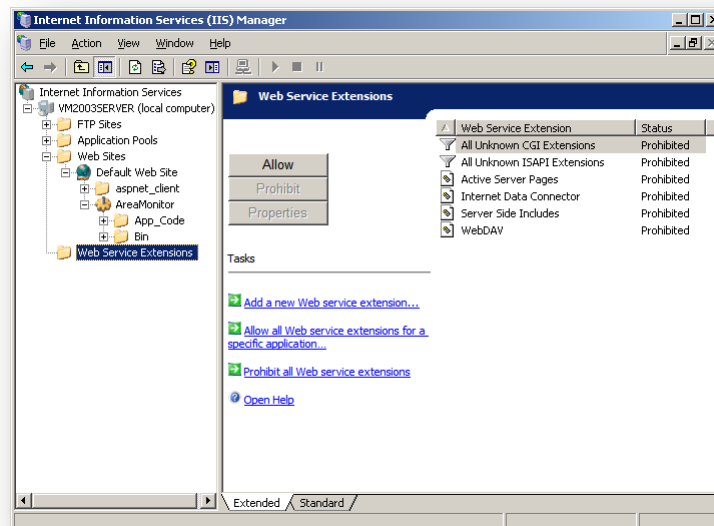

Figure 98 – Internet Information Services (IIS) Manager (Web Service Extensions)
2. In the IIS Manager window, click on the plus symbol next to the “Sites” folder, then click on the plus symbol next to “Default Web Site”. The IIS Manager window should now resemble Figure 98.